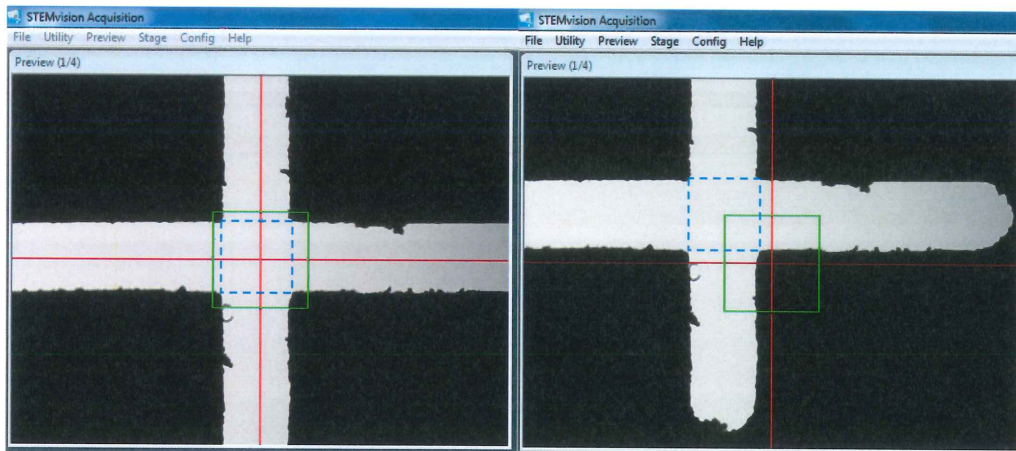

Figure 15: STEMvision™ Stage Position: Correct (left) and Incorrect (right) Positioning. Blue dashed square indicates the targeted area (center of cross).
4. Confirm that the intersection of the red grid lines falls within the center area of the cross (i.e. open space outlined in blue dashed square), as shown in Figure 15 (left image).
5. Right-click on well A1 in the Well Navigator dialog box to move the stage to the center of this well. A cross-shaped slot should again be visible in the preview image. Confirm again that the red grid lines fall within the center area of the cross, as shown in Figure 15 (left image).
6. If the red grid lines fall outside of the boundaries of the cross shape for either wells A1 or B3, then the stage is not calibrated correctly (Figure 15, right image).